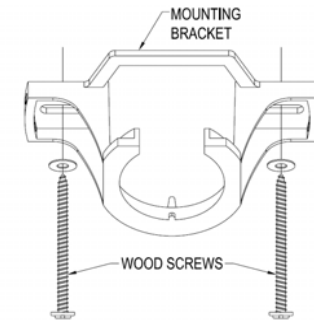

Figure 1
- Install mounting bracket (Fig. 1) to roof fixings using long screws into timber.